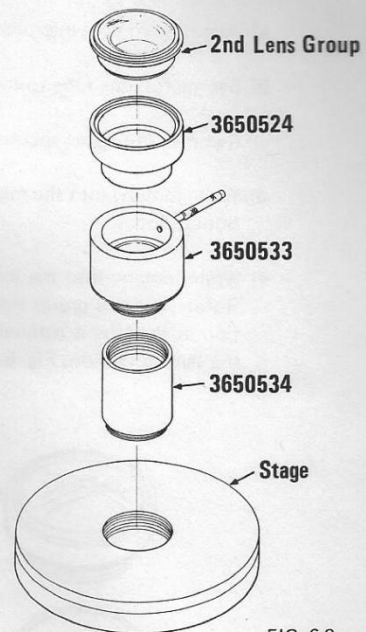

FIG. 6-8
- a) Assemble the tools as shown in Fig. 6-8 to the microscope stage.